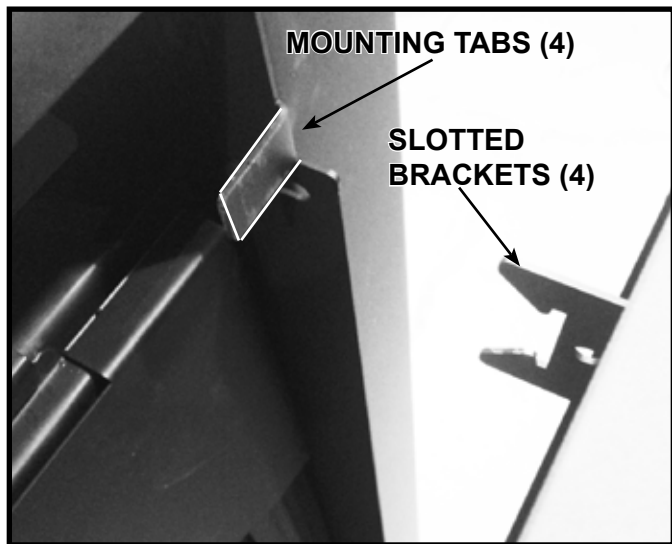

Figure 7 Install Decorative Front
6. Install the decorative front to the mounting brackets by engaging the brackets mounted on the decorative front assembly to the mounting brackets located on the appliance. See Figure 7. Ensure the decorative front is properly attached and securely positioned on the appliance.